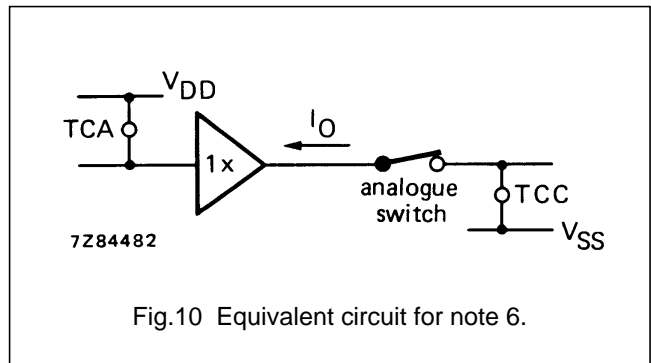

Fig.10 Equivalent circuit for note 6.
6. The analogue switch is in the ON position (see Fig.10).